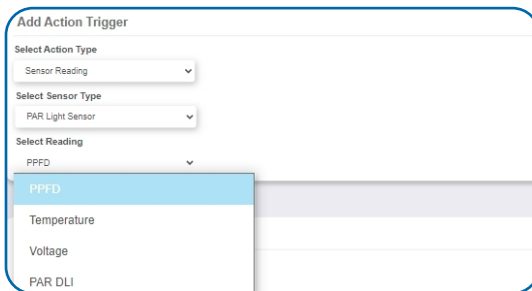

Figure 27
- Next, you will be asked to input the trigger settings. See Figure 27.